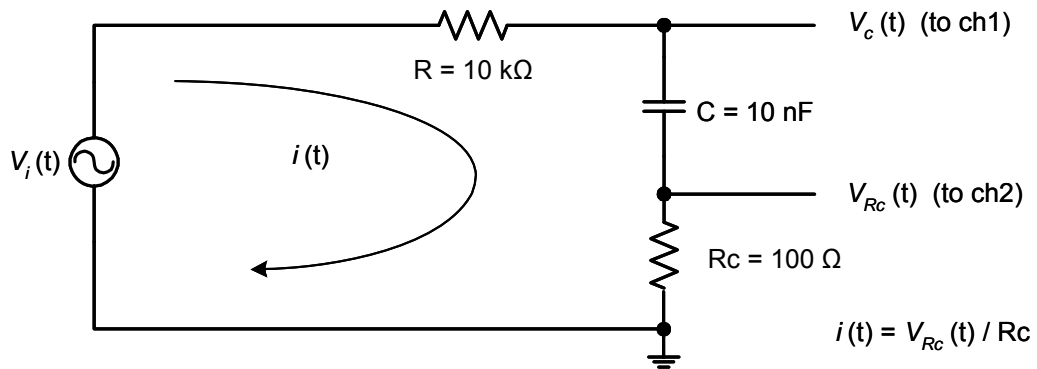

Figure 4.3
- iii) Draw a diagram of the actual physical layout of the circuit shown in Figure 4.3, including the protoboard, instruments and connecting wires.
- iv) Fill in the theoretically expected values missing in Table 4.1 (refer to Figure 4.3)
Because both vertical channels of the oscilloscope have one input terminal grounded, all measurements made by the oscilloscope use the ground as a reference (i.e. no “floating” measurements are possible). Currents cannot be measured directly with an oscilloscope. To allow monitoring of the current, $i(t)$, a small resistor, R_c is placed in series with the capacitor, C , as shown in Figure 4.3 and its voltage is monitored. As long as $R_c \ll |X_c|$ and $R_c \ll R$, the voltage drop across R_c is small compared to the other voltages, and the effect of the resistor, R_c on the circuit can be ignored. The current, $i(t)$ can be obtained by $i(t) = \frac{1}{R_c} V_{R_c}(t)$.
Step 2: Connect the circuit in Figure 4.3 as you have drawn it in part iv) of the preparation. Display simultaneously the capacitor voltage, $v_c(t)$, on CH1, and the voltage, $v_{R_c}(t)$ across the resistor, R_c on CH2.